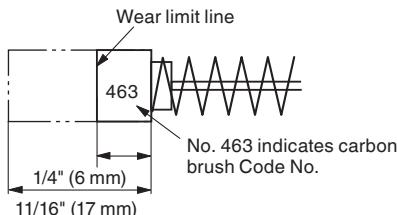
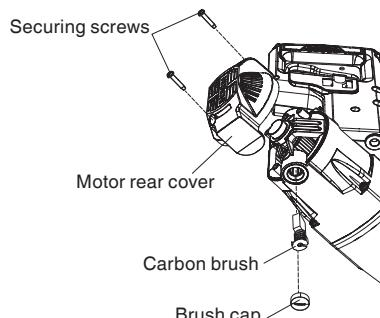

Fig. 45
Fig. 46
2. Inspecting the carbon brushes (Fig. 45 and Fig. 46)
Therefore, inspect the carbon brushes periodically and replace them when they have become worn to the wear limit line as shown in Fig. 45.
NOTE: When replacing the carbon brushes, use only metabo HPT carbon brushes having "463" of Code No. (see Fig. 45). If you use other carbon brushes, the electric brake will not operate.